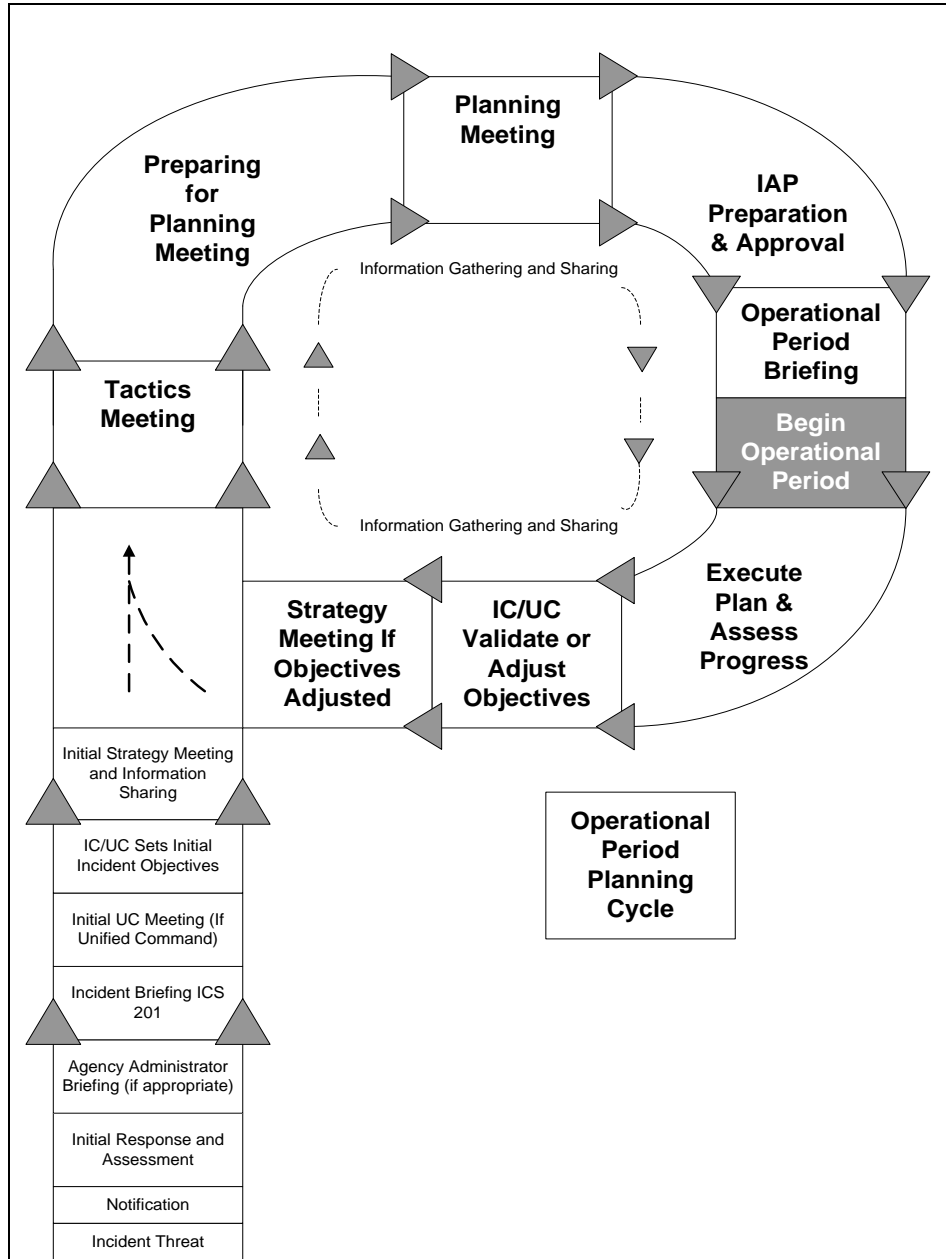

Figure 3.1. The Planning P.
(1) The Planning P (see Figure 3.1) is a planning tool used to develop IAPs by agencies throughout the United States. Having a common planning process